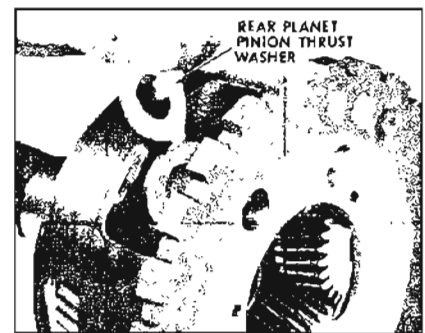

Figure 5-267
12. Remove rear planet pinion thrust washer. See Figure 5-267.